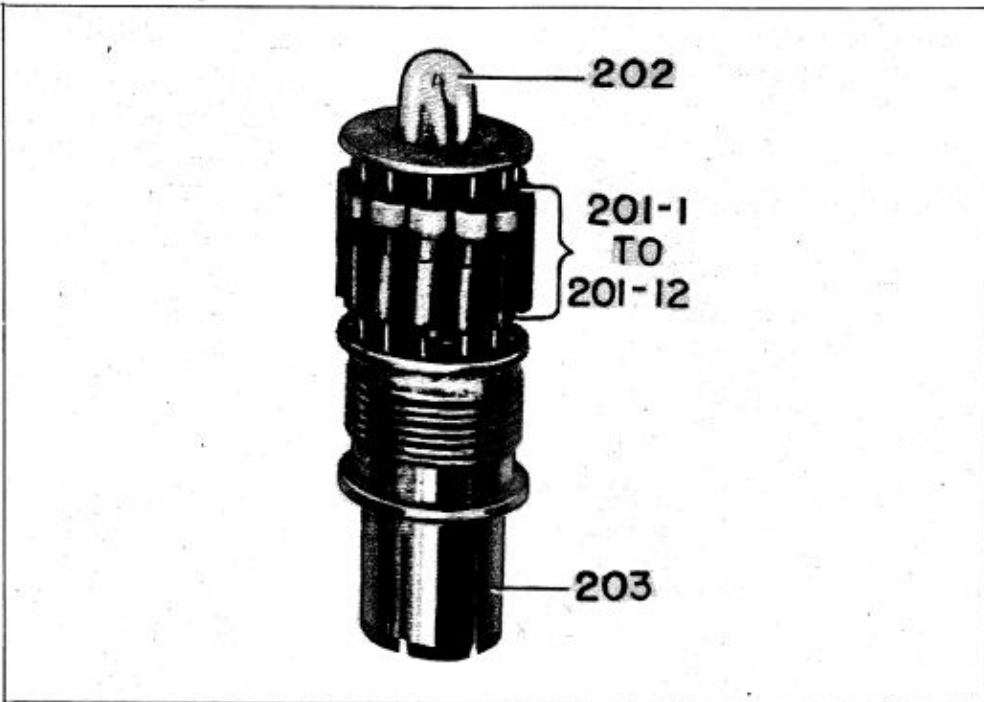

Figure 6—Phantom Antenna A-29
d. PHANTOM ANTENNA A-29.—This phantom antenna is packed in the small square compartment in the right-front of Chest CH-234. On one end is a brass plug to fit into Socket SO-153 of Rack FT-244-A. (See figure 10.) Mounted above the base are the 12 resistors comprising the phantom antenna, arranged in a circular mounting. At the top is a pilot lamp, the base of which is within the resistor mounting. (See figure 6.)